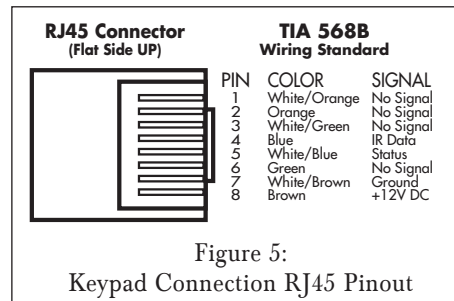

Figure 5:
2. Terminate each CAT5 cable with RJ45 connectors on each end. Follow the TIA568B wiring standard. (See *Figure 5*)